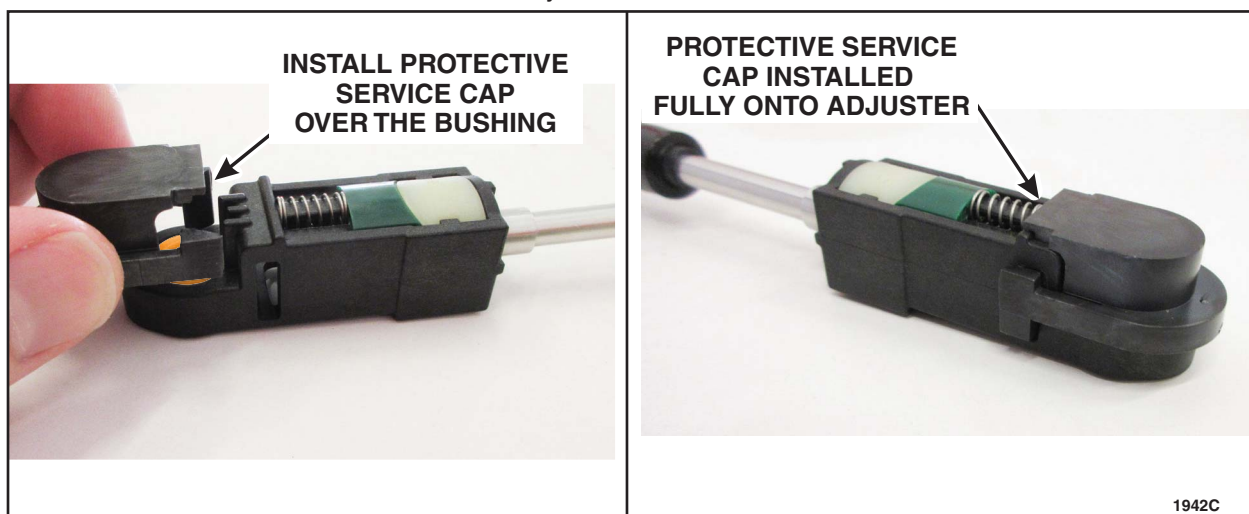

FIGURE 15
16. Install the new cap onto the selector lever cable adjuster. Clip one side into the adjuster body and then slide the other onto the housing until it snaps into place. The protective cap should cover the bushing and the terminal end of the adjuster. See Figure 15.